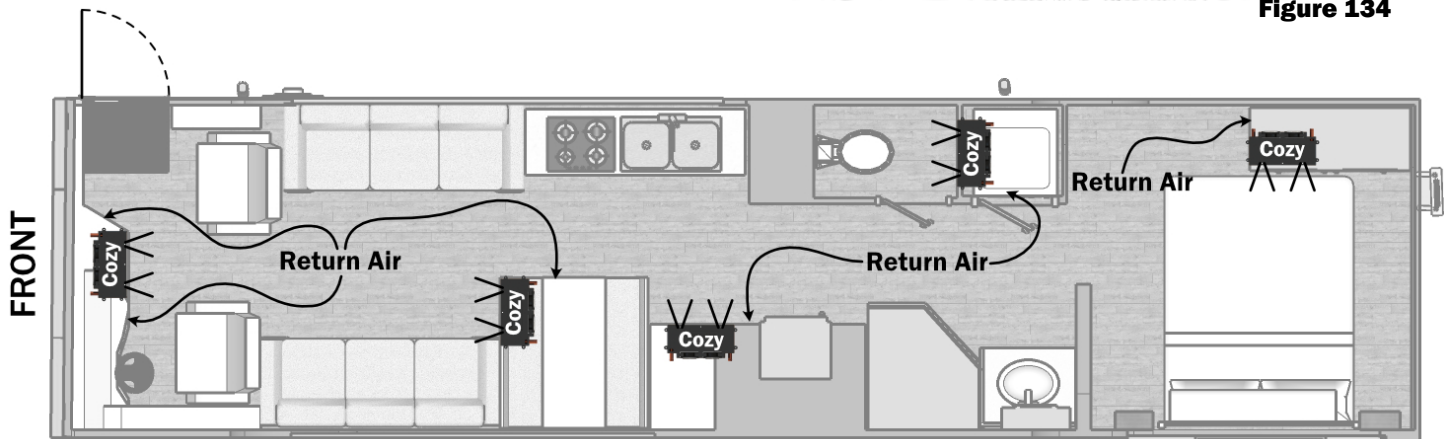

Figure 135
- Must be cold air returns installed for every heat exchanger (reference Figure 135)